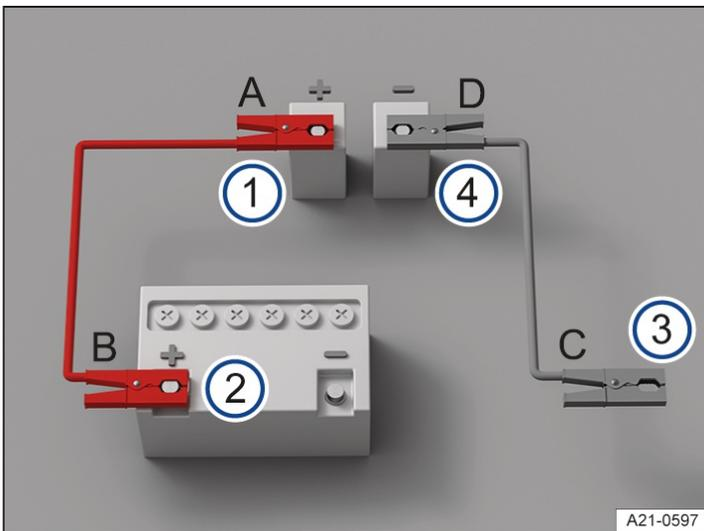

Fig. 2 Diagram showing how to connect jump leads in vehicles with a 12-volt vehicle battery in the vehicle interior.
Connect the jump leads only in the order A - B - C - D → Fig. 2.
3. Connect one end of the red jump lead to the positive jump-start connection point(+) of the vehicle with the discharged 12-volt vehicle battery → Fig. 2 ① → ⚠.
4. Connect the other end of the red jump lead to the positive battery terminal(+) of the vehicle providing assistance → Fig. 2 ②.
5. Connect one end of the black jump lead preferably to an earth jump-start connection point(-) on the vehicle with the 12-volt vehicle battery providing assistance → Fig. 2 ③.
Or: if no earth jump-start connection point (-) is present, connect the end of the black jump lead to a solid metal part that is securely bolted onto the cylinder block or to the cylinder block itself on the vehicle with the 12-volt vehicle battery providing assistance → Fig. 2 ③.
6. Connect the other end of the black jump lead to the earth jump-start connection point(-) on the vehicle with the discharged 12-volt vehicle battery → Fig. 2 ④ → ⚠.
3. After jump starting, the jump leads should be removed only in the order D – C – B – A → *Fig. 1* or → *Fig. 2*.